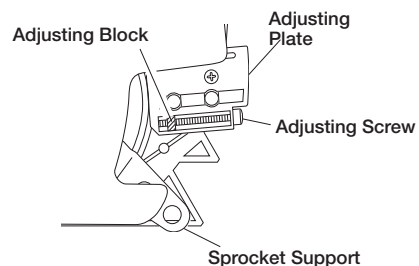

Figure 3 - Part Locations For Assembling Guide Bar
4. Turn adjusting screw counterclockwise (see Figure 3). Continue to turn adjusting screw until adjusting block is to rear of adjusting plate.